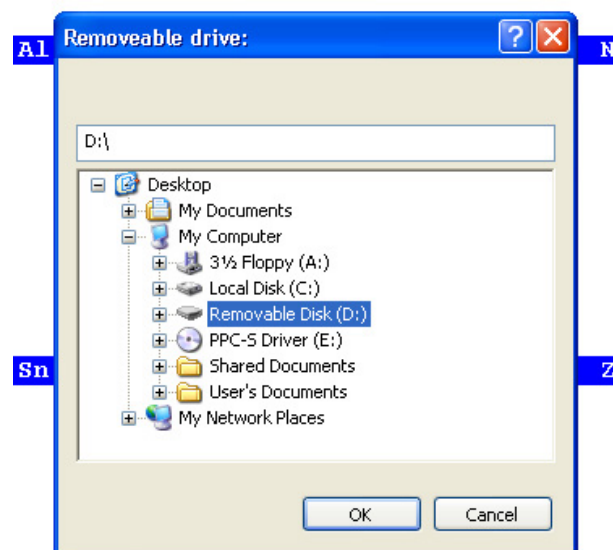

Figure 5-3, Set-up User Functions Paths Screen
5. The “Removable Drive:” window will open, Figure 5-3. Select the drive that says “Removable Disc (D:)”. With the disc drive highlighted click on the OK button.